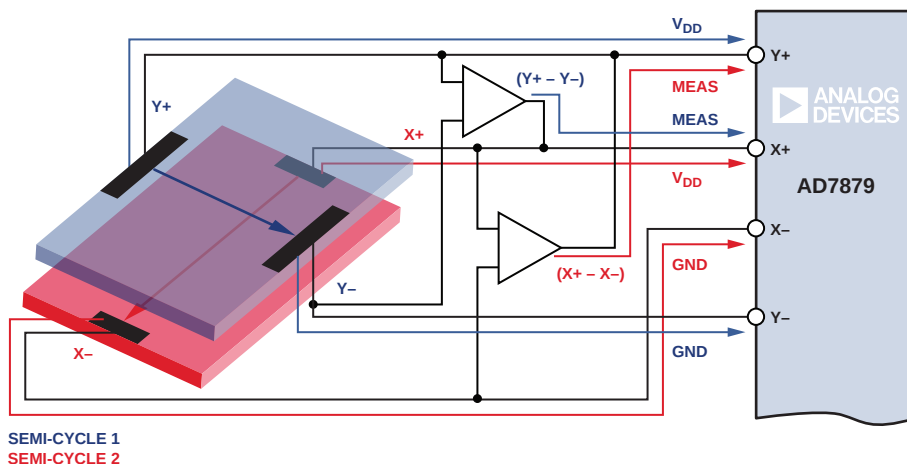
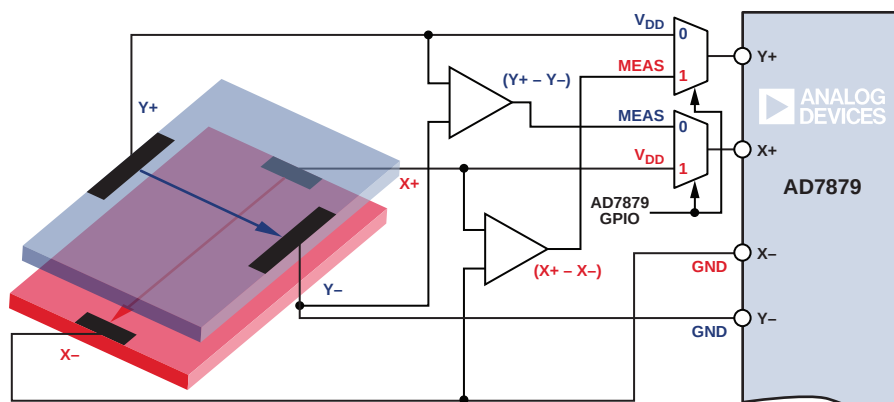
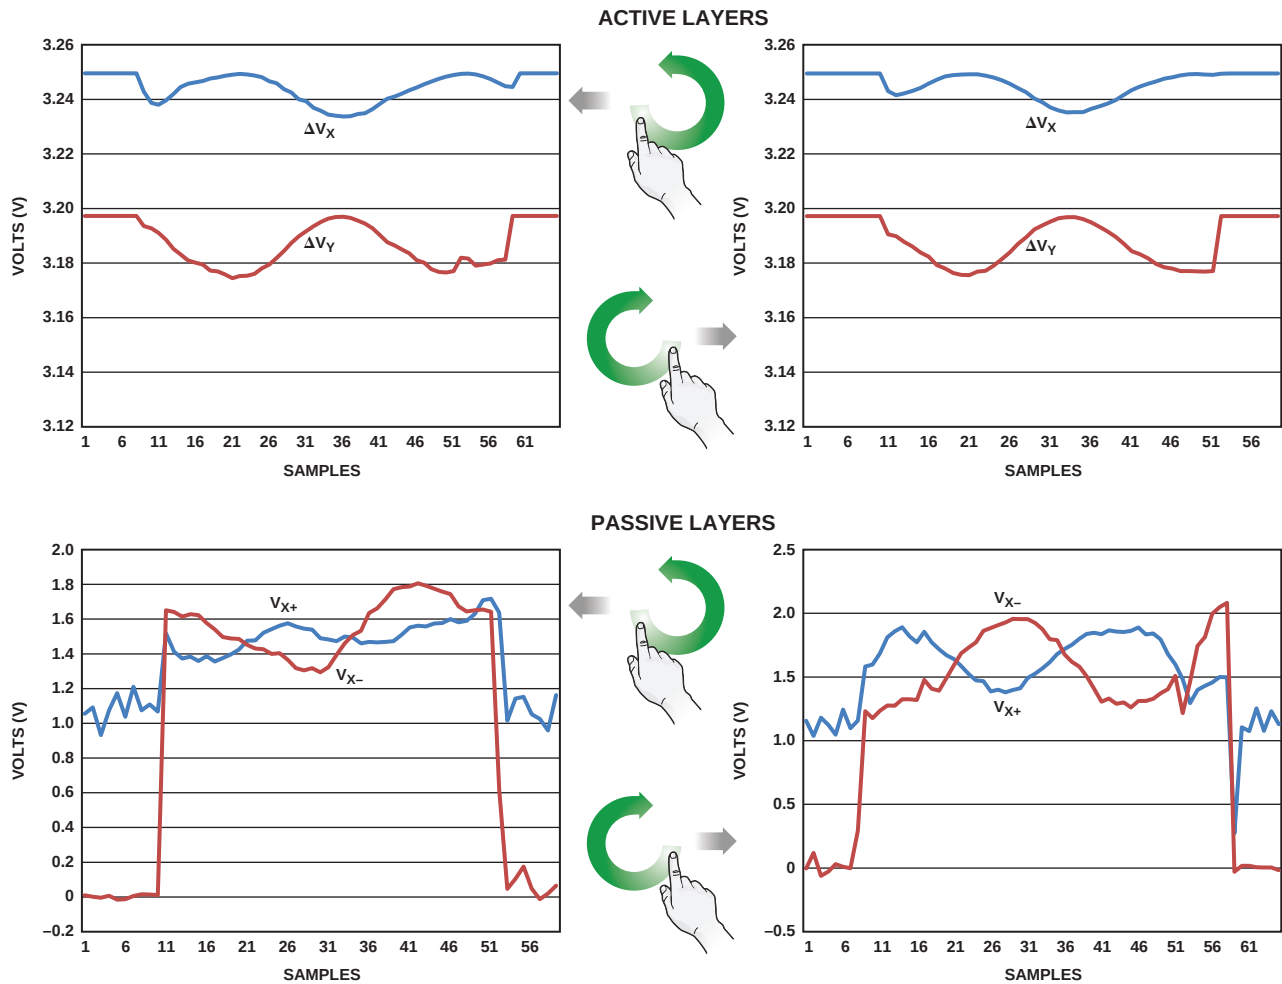
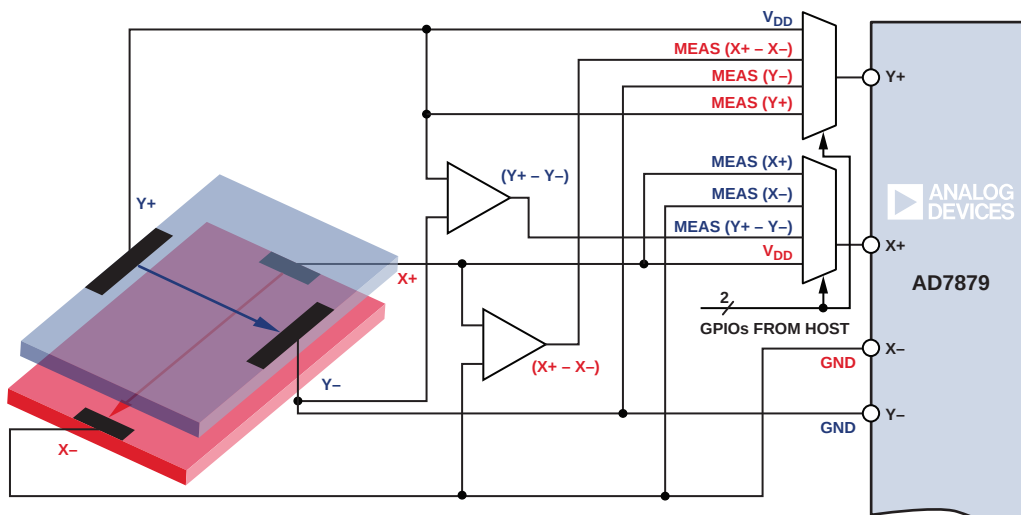

Figure 6. Application diagram for basic gesture detection.
Figure 7. Application diagram that avoids shorting the amplifier outputs to V_{DD} .
Figure 8. Voltage measurements when CW and CCW rotations are executed.
Figure 9. Application diagram for single touch location and gesture detection.
The AD7879, accompanied by a pair of low-cost op amps, can perform the above pinch and zoom gesture measurements, as shown in Figure 6.
The circuit in Figure 6 requires the differential amplifiers to be protected against shorts to V_{DD} . During the first semi-cycle, the output of the lower amplifier is shorted to V_{DD} . During the second semi-cycle, the output of the upper amplifier is shorted to V_{DD} . To avoid this, two external analog switches can be controlled by the AD7879's GPIO, as shown in Figure 7.
A rotation can be modeled as a simultaneous zoom in one direction and an orthogonal pinch, so detecting one is not difficult. The challenge is discriminating clockwise (CW) and counterclockwise (CCW) gestures; this cannot be achieved by the process described above. Detecting both a rotation and its direction requires measurements on both layers, active and passive, as shown in Figure 8. Since the circuit in Figure 7 cannot meet this requirement, a new topology is proposed in Figure 9.
The topology proposed in Figure 9 allows the following:
The circuit of Figure 9 permits all the voltages required to achieve full performance to be measured, namely, a) single touch location, b) zoom, pinch, and rotation gesture detection and quantification, and c) CW vs. CCW rotation discrimination. Single-touch operation when performing a dual-touch gesture provides an estimation of the gesture centroid.
Analog Devices offers a variety of amplifiers and multiplexers that fulfill the needs of the applications shown in Figure 6, Figure 7, and Figure 9. The AD8506 dual op amp and ADG16xx family of analog multiplexers, which offers low on resistance with a single 3.3-V supply, were used to test the circuits.